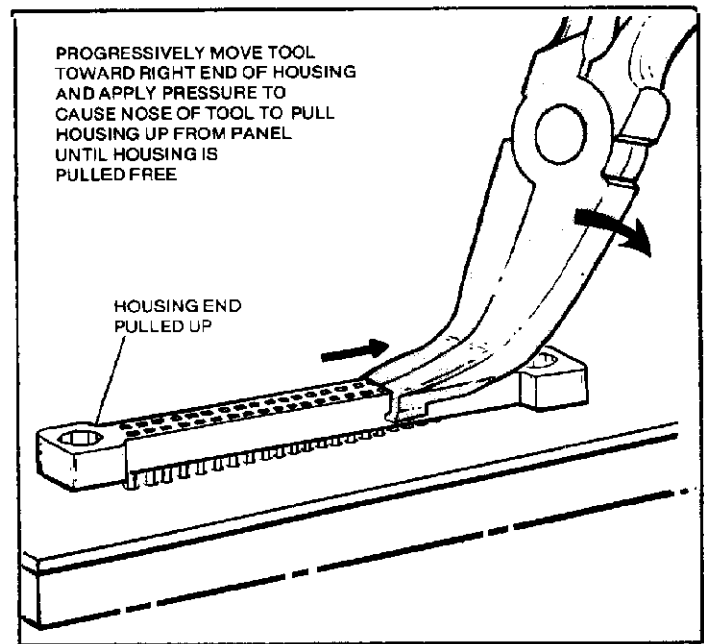

Figure 3
- (c) Progressively move tool toward right end of connector housing (Figure 3) and repeat step (b), pulling more of connector housing up from panel, until housing is pulled free from panel.